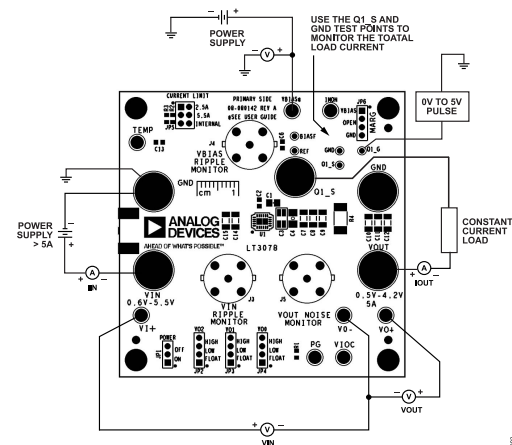

Figure 3. Proper Load Response Testing Equipment Setup for the EVAL-LT3078-AZ
2. For the proper load response testing equipment setup, see Figure 3. Return the external DC load current to the 0.02 Ω sense resistor R5 via the Q1_S banana jack so the transient current and DC load current can both be monitored together using the Q1_S and GND test points.